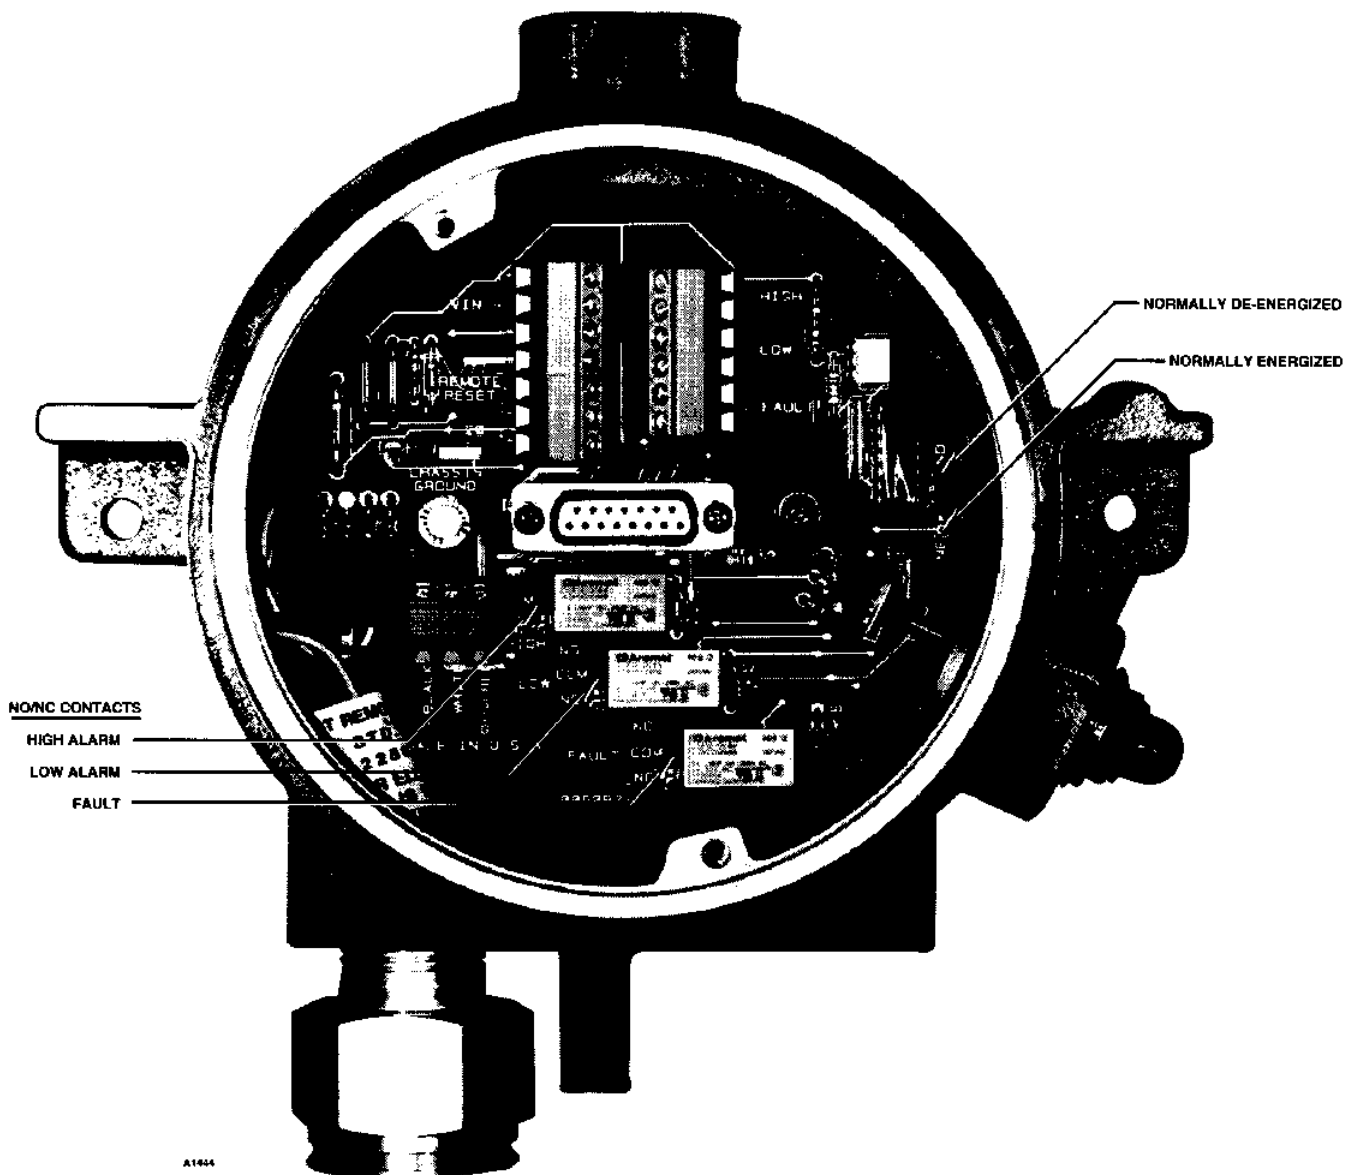

Figure 6—Relay/Terminal Circuit Board
4. If the transmitter is equipped with relays, they must be programmed for either normally open or normally closed operation. This is accomplished by placing a jumper plug on the appropriate pins located on the relay/terminal printed circuit board. See Figure 6. Adjacent to each relay is a row of 3 pins labeled NO, COM, NC. For normally open operation, place the plug on the NO and COM pins. For normally closed operation, place it on the NC and COM pins. Each relay is programmed individually. (Table 3 shows the correct positions for all the jumper plugs on the U8700H.)
5. The alarm relays must also be programmed for normally energized (fail-safe) or normally de-energized operation. This is also accomplished by placing a jumper plug on the appropriate pair of pins on the relay/terminal board. See Figure 6. For normally energized alarm relays, place the plug on the center and NE pins. For normally de-energized operation, place it on the center and ND pins. The low and high alarm relays are programmed together, not individually. The fault relay is unaffected by the setting of this plug.